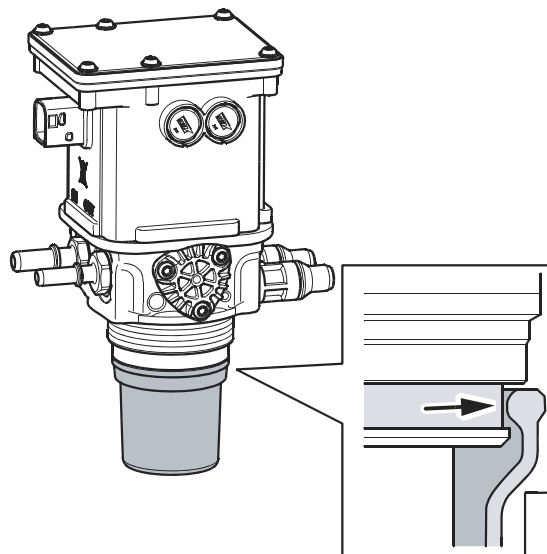

*Figure 2 DEF Pump Filter*
6. Remove the sealing diaphragm. See Figure 2.